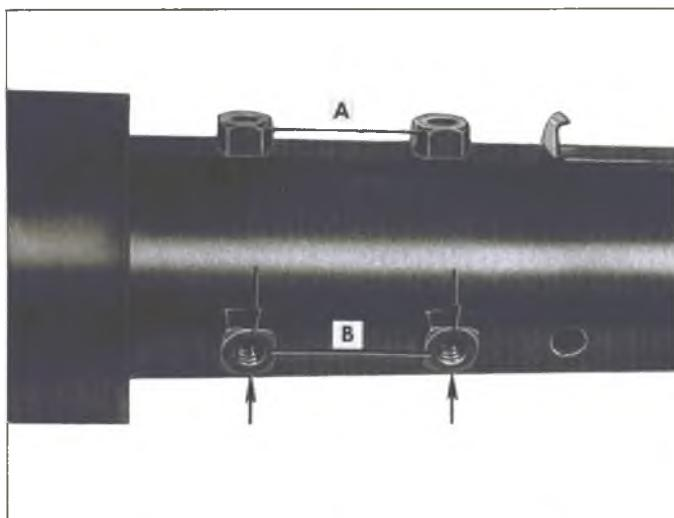

Fig. 65—Installing Steering Column in Vise
2. Place the column in a vise using both weld nuts of either Set A or B as shown in Figure 65. The vise jaws must clamp onto the sides of the weld nuts indicated by arrows shown on Set B.
2. Mount the column in a vise using both weld nuts of either Set A or B as shown in Figure 65. The vise jaws must clamp onto the sides of the weld nuts indicated by arrows shown on Set B.